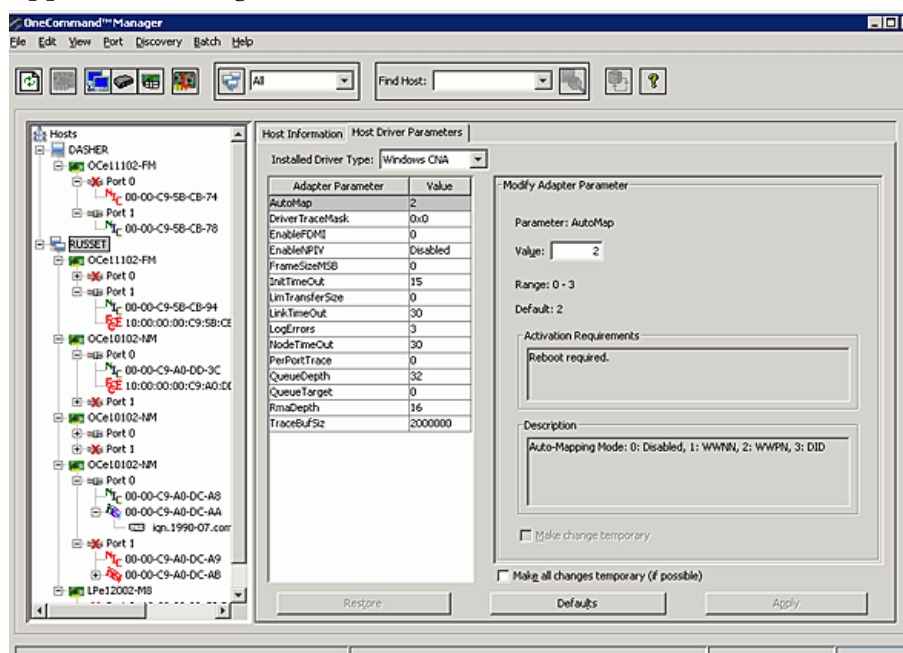

Figure 8-32 Host Driver Parameters Tab - Host Selected
3. Select the **Host Driver Parameters** tab (Figure 8-32 on page 160). If there are adapters with different driver types installed, the **Installed Driver Types** menu shows a list of all driver types and driver versions that are installed. Select the driver whose parameters you want to change. This menu does not appear if all the adapters are using the same driver.